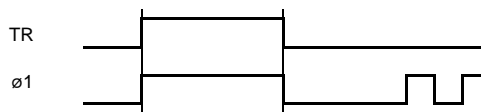

Figure 24: TR- \emptyset 1 Guardband Can Be Equal To 0
- The TR- \emptyset 1 guardband may be equal to 0, causing TR and \emptyset 1 to go high simultaneously and low simultaneously (Figure 24). This is a requirement of some Canon CIS sensors.